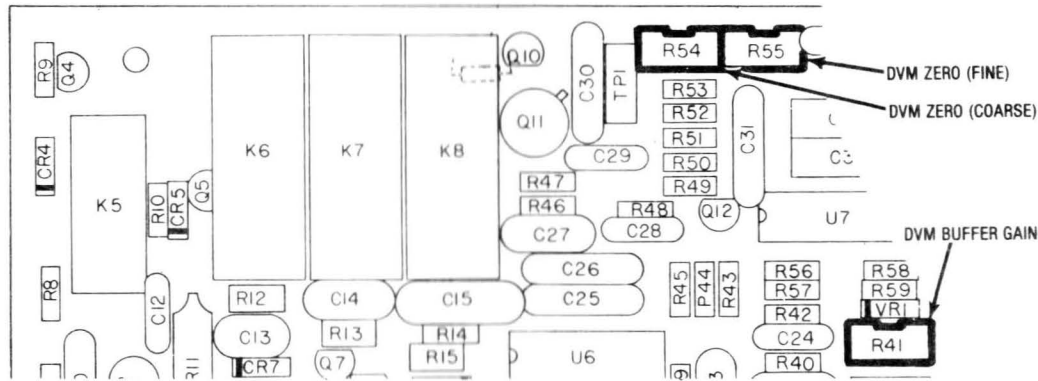

Figure 5-17. DVM Input Buffer Alignment Points
4. Adjust the Coarse and Fine DVM Zero potentiometers on the Front Panel Interface board (Figure 5-17) for a reading of 0 ± 0.5 mV on the external DVM.
7. Reconnect the external DVM between pin 1 and pin 6 of J3. The external DVM should show a reading equal to one-tenth the voltage at TP 12 noted in paragraph 5-119.6 plus or minus 10 mV. If the reading falls outside this range it will be necessary to physically disconnect the front panel from the chassis in order to adjust the DVM Input Gain Potentiometer on the Front Panel Interface Card (Figure 5-17). Adjust the DVM Input gain for a reading on the external DVM equal to one-tenth the voltage noted for paragraph 5-119.6. Reconnect the front panel to the chassis.